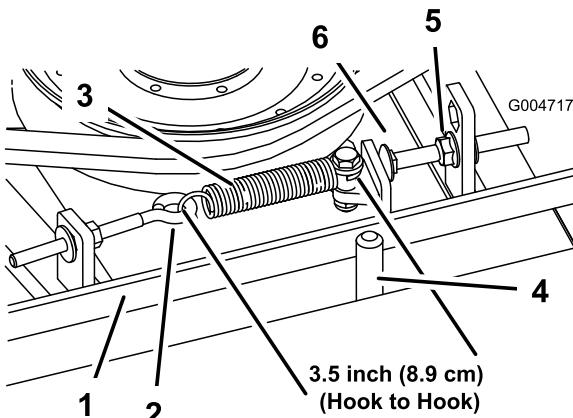

Figure 99
When properly tensioned, the inside measurement of the extension spring (hook to hook) should be approximately 8.3 to 9.5 cm (3-1/4 to 3-3/4 inches). Once the correct spring tension is attained, adjust the stop bolt (carriage bolt) until there is approximately 2 to 5 mm (0.065 to 0.185 inch) clearance between the head of the bolt and the idler arm (Figure 99).
**Note:** Ensure that the belt is positioned on the spring side of the belt guide (Figure 99).
2. Loosen the eye bolt allowing the removal of the extension spring (Figure 99).
3. Loosen the flange nut securing the stop bolt to the mounting tab and move the idler pulley away from the belt to release the belt tension (Figure 99).
9. Connect the extension spring (Figure 99) to the eye bolt and tension the belt as follows: